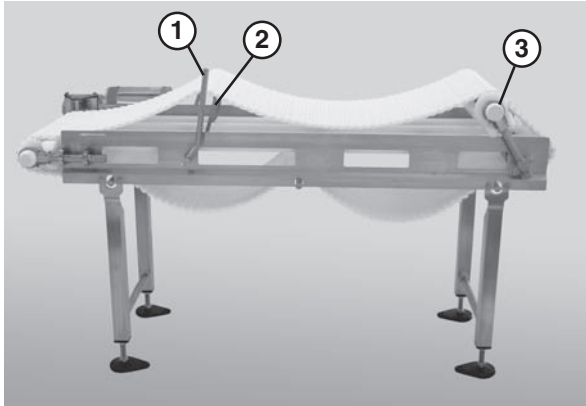

Figure 48
2. Use the lifter handle (Figure 48, item 1) to raise the lifters (Figure 48, item 2) and raise the tip up tail (Figure 48, item 3).